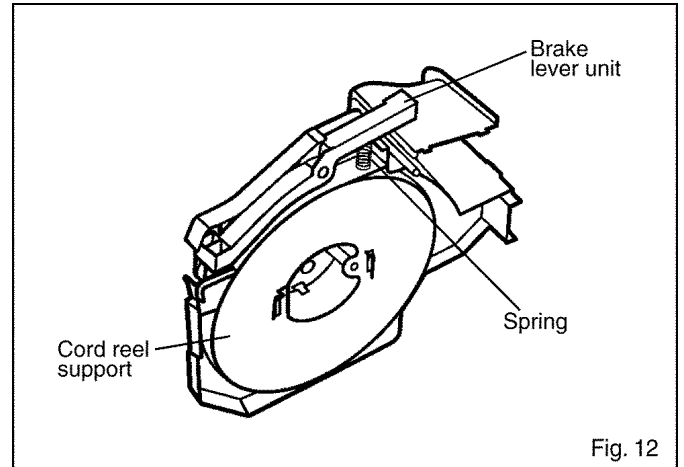

Fig. 12
2. To change the brake lever unit, replace the body partition assembly with new one. (Fig.12)